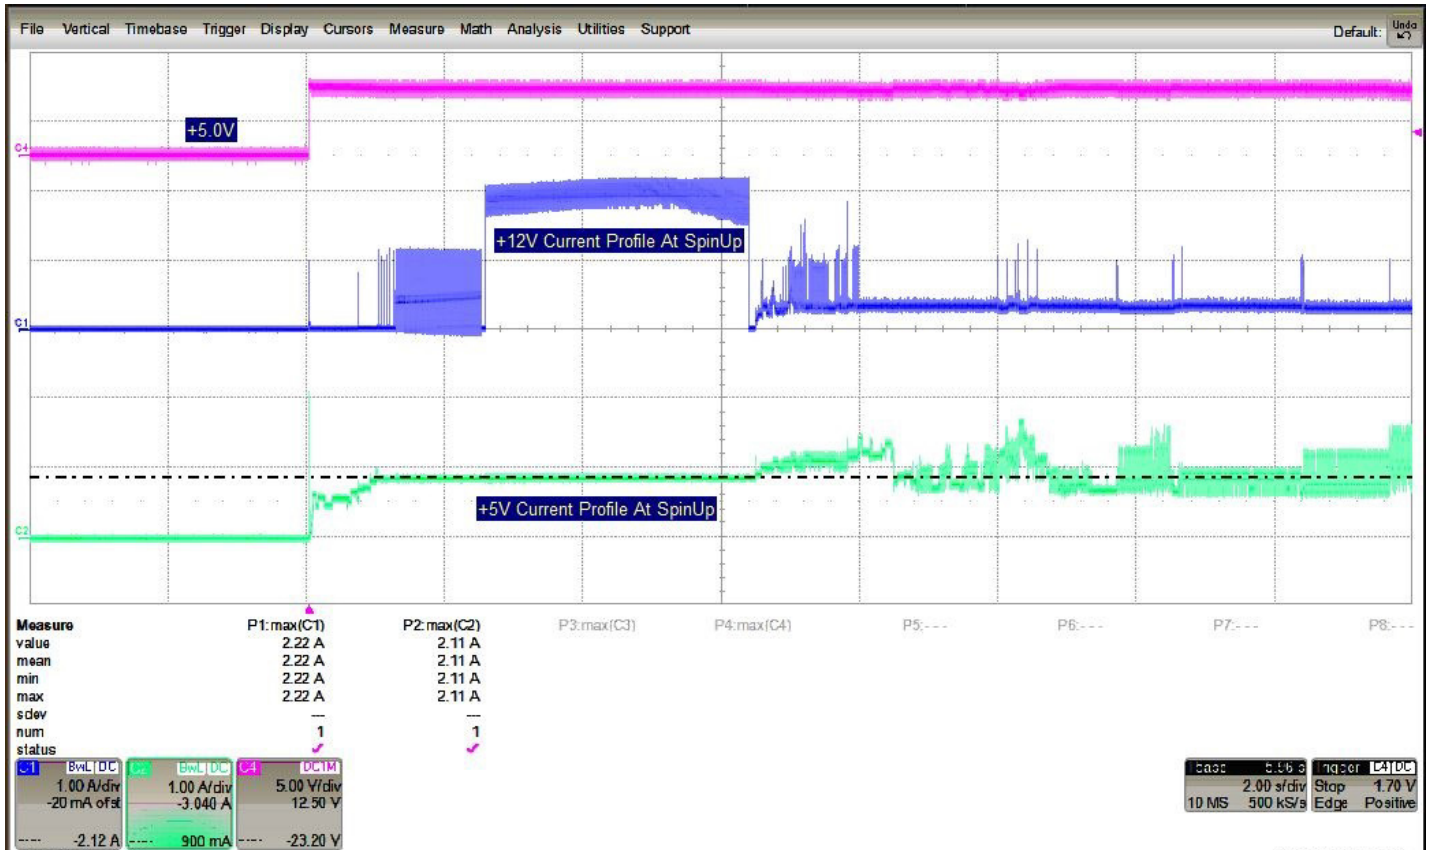

Figure 1. 14TB model current profiles.
- [3] See +12V current profile in Figure 1. (for 14TB models)